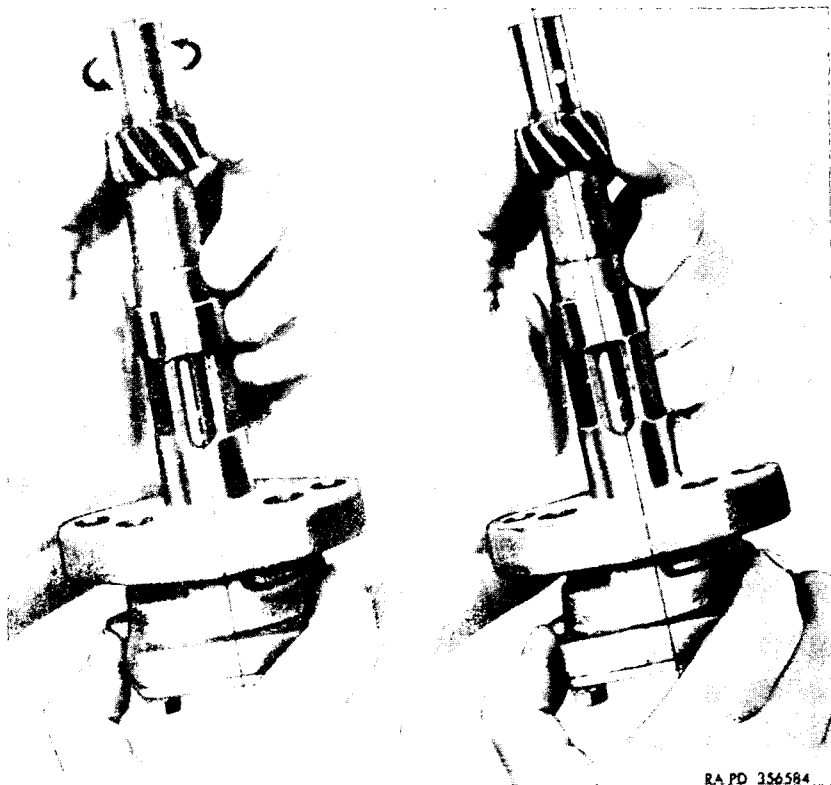

Figure 97. Positioning of distributor drive gear ready for installation of oil pump.
toward the heavy portion of the oil pump mounting flange. With the distributor drive gear (fig. 97) in this position, note that one tooth on the gear is directly in line with the opening in the oil pump shaft housing.
- (4) With the fingers, turn the distributor drive gear (fig. 97) in a counterclockwise direction to the next tooth on the gear.
- (5) Leave the distributor drive gear in this position and install the oil pump using new oil pump gasket.
- (6) Remove distributor cap and place rotor in approximately the 7 o'clock position with the contact points just about to open. Make certain the cork oil seal washer is in place and position the distributor on the engine and push it into the cylinder block opening. If resistance is felt on the distributor and it will not go into place, turn the rotor slightly in one direction or the other and it will drop into place. Install distributor lock screw and time ignition so that the contact